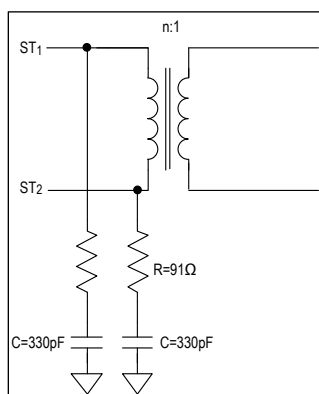

Figure 4. Output Snubber
For V_{DD} greater than 27V, use a simple resistor-capacitor (RC) snubber circuit on ST1 and ST2 to ensure that the peak voltage is less than 40V during switching (Figure 4). Recommended values for the snubber are $R = 91\Omega$ and $C = 330pF$.